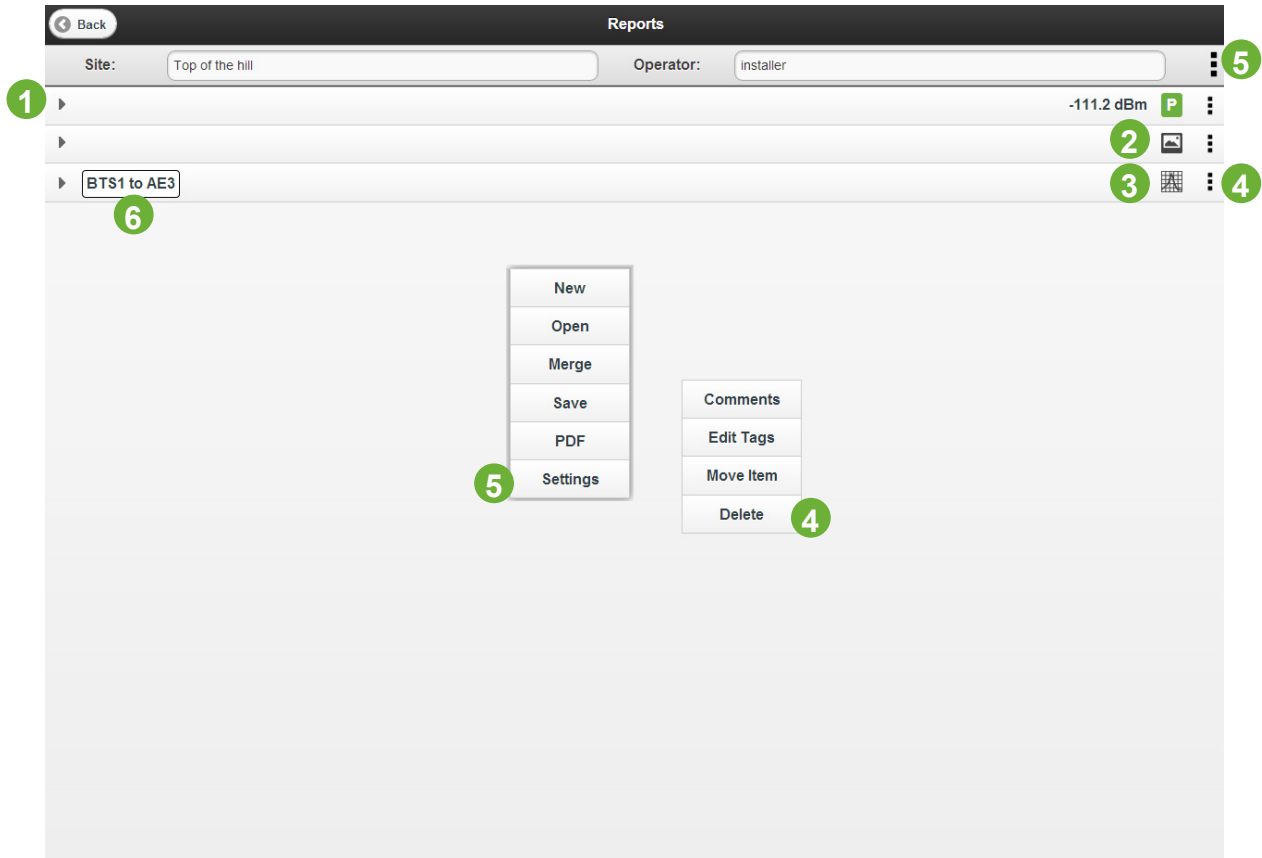

Figure 47 Report Browsing Window
5. The report may be saved into the iPA or SD card in an \*.zip format or saved as a PDF. See Figure 47 . **Note** : (Settings)This allows access to Report Settings from remote browser as per Section 1.10.2. (New) This will clear the current report data and start from a new screen, ensure any wanted results are saved before commencing a new report or data will be lost. (Merge) Allows the report zip file to be merged with the report in memory. **Note** : the report in memory must be saved before it can be merged with another report file.
See Figure 47 Report Browsing Window. To locate the move control beside the item you want to shift. Select Move , once highlighted press in the new location for the item.